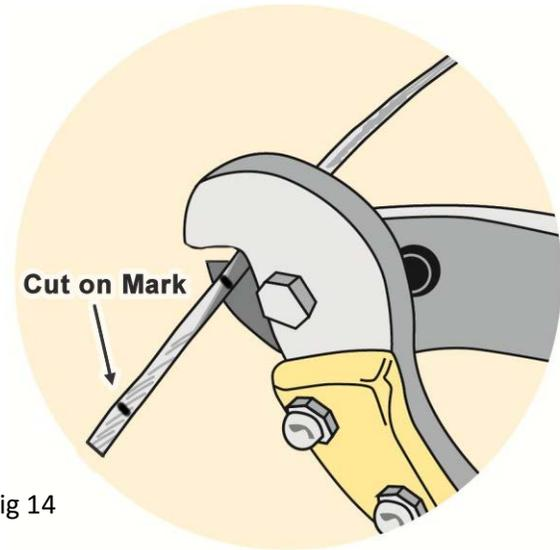

Fig 14
- Cut cable to its final length (Fig. 14).